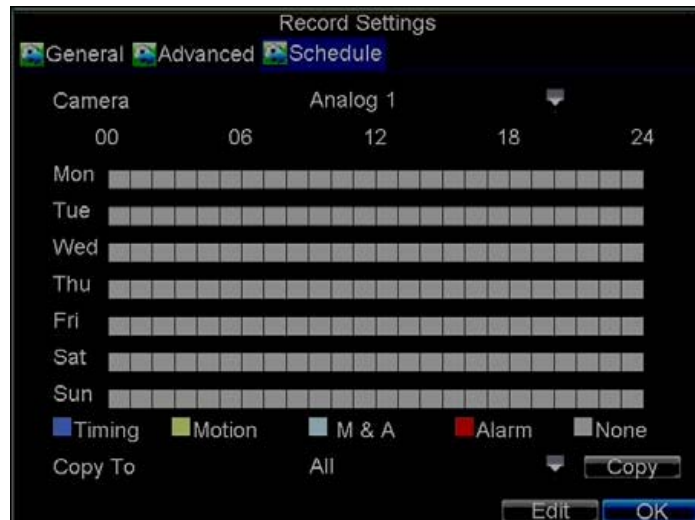

Figure 4.3.7.
- 8) Click *Edit* button to enter a new recording schedule, shown in Figure 4.3.7.